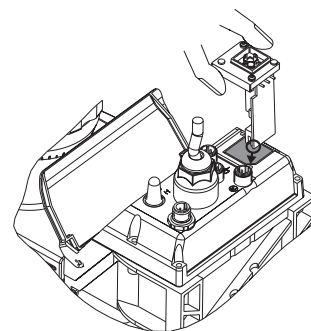

Fig. 16
- ▶ Hold the relay component with your right hand gripping the left and right hand edges of the relay cover, and tilt the front end slightly to the left (see fig. 16)